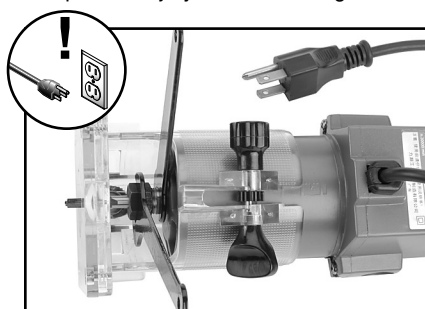

Figure 3. Loosening the collet.
3. Place the collet wrenches as shown in **Figure 3**, loosen the collet, and remove the router bit.